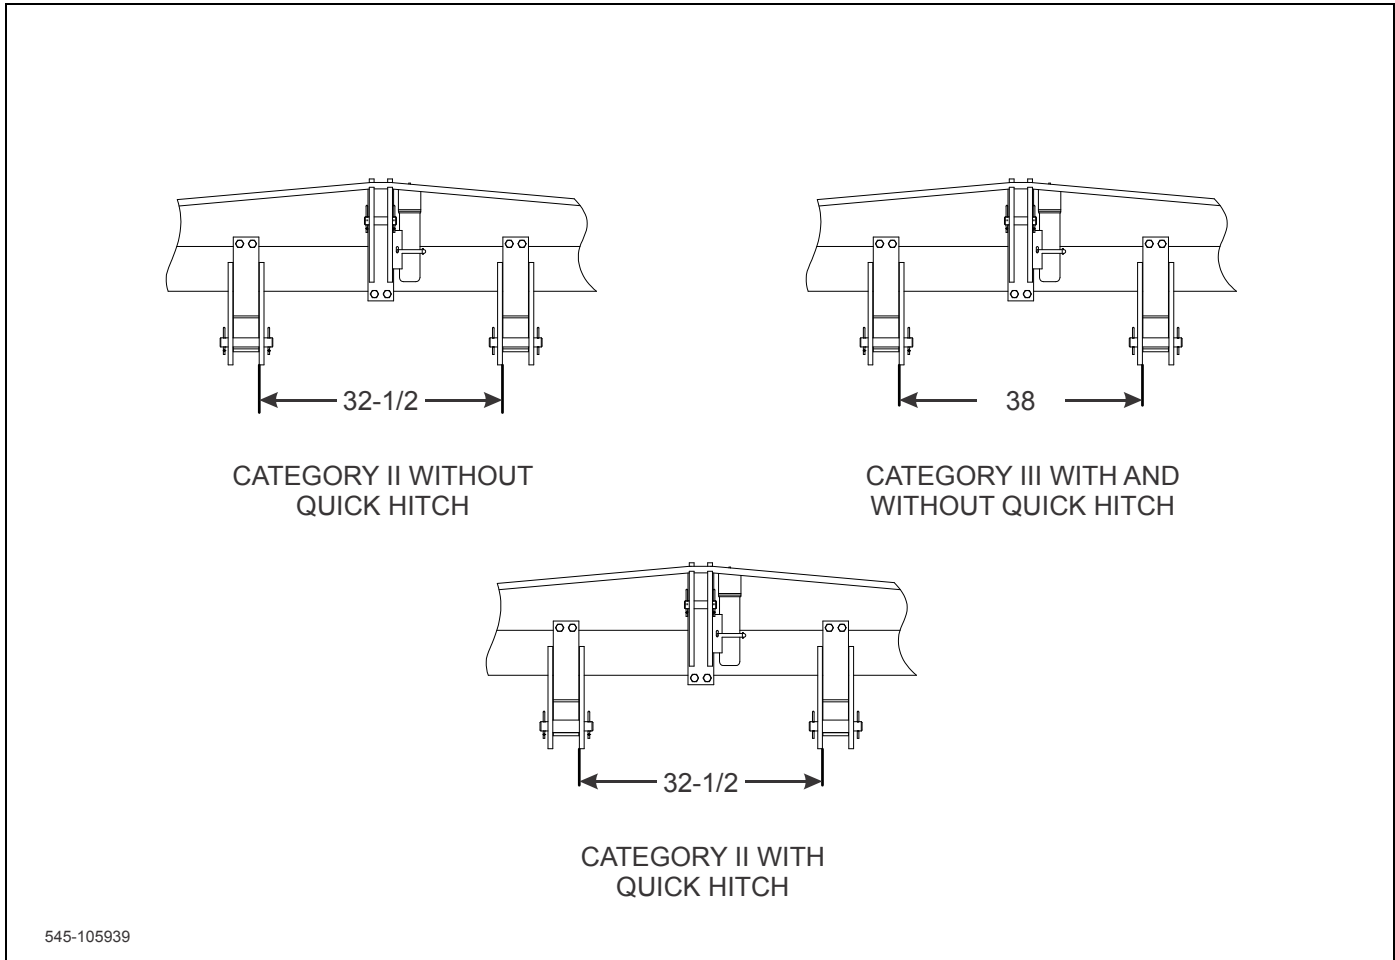

Figure 4-1: Examples of Hitch Setups
2. Attach the cultivator to the tractor draft arms. Be sure the hitch pins and sleeves are installed as shown in **Figure 4-1**.